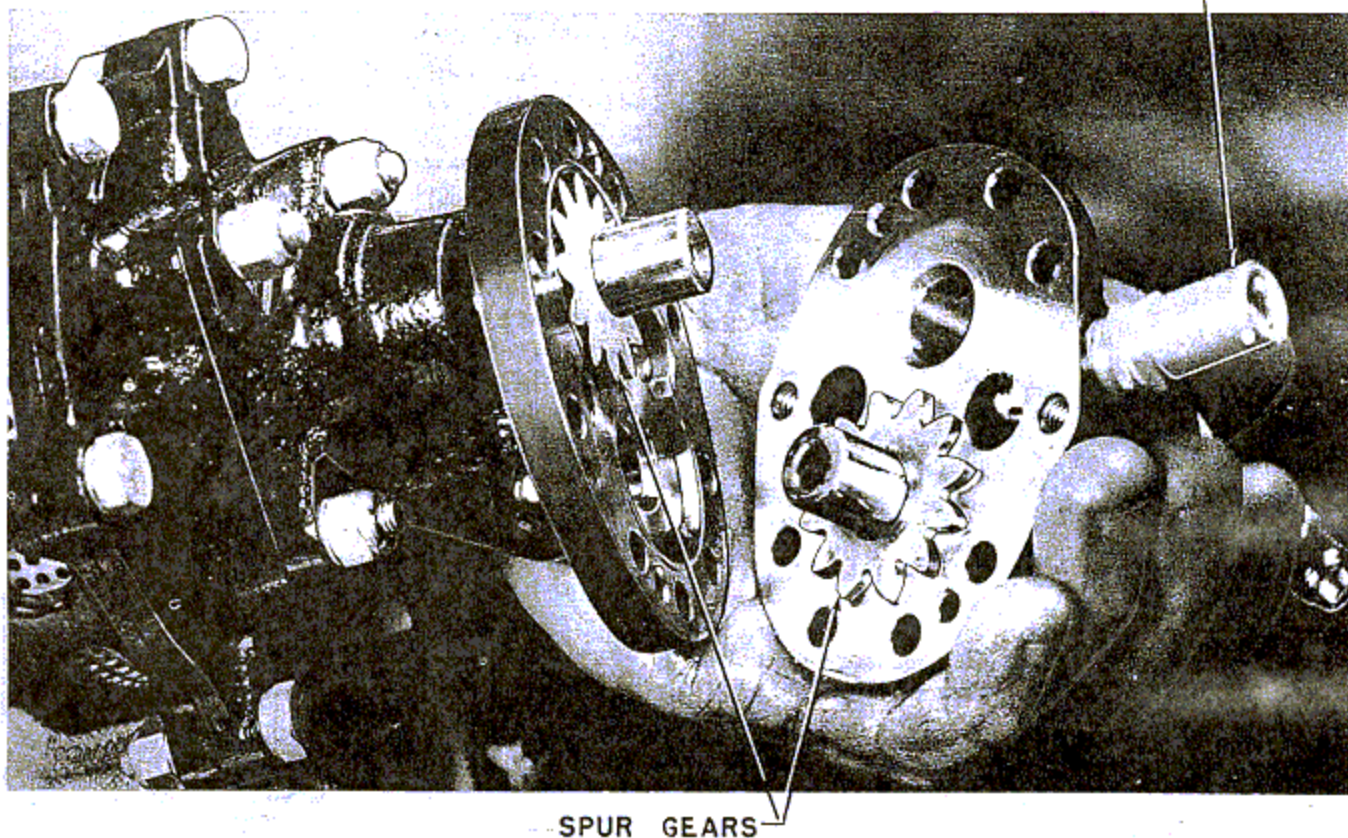

Figure 220—Separating Hydraulic Pump Housing
5. Tap lightly around the port plate with a wooden hammer to separate the pump face from the pump body and pull the spur gears from the pump housing. (See figure 220.)